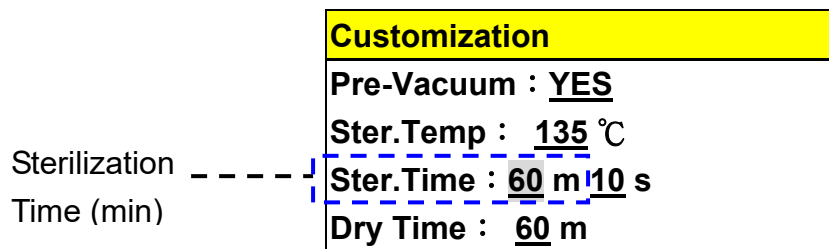

Figure 78
- Press  button to store sterilization time parameter as shown in Figure 78.